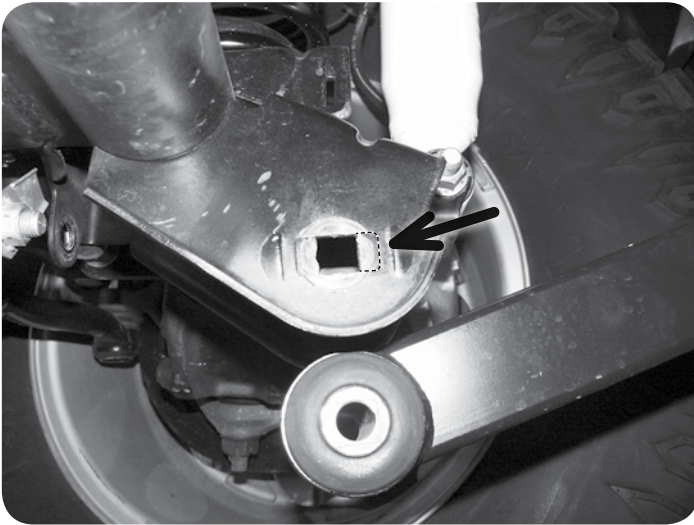

Figure 3
14. Locate the perforated section of the lower control arm pocket mounting hole (Figure 3). The rear portion of the perforated section must be removed. Using a rotary grinding tool or chisel, remove the perforated section in each (2) mounting hole.